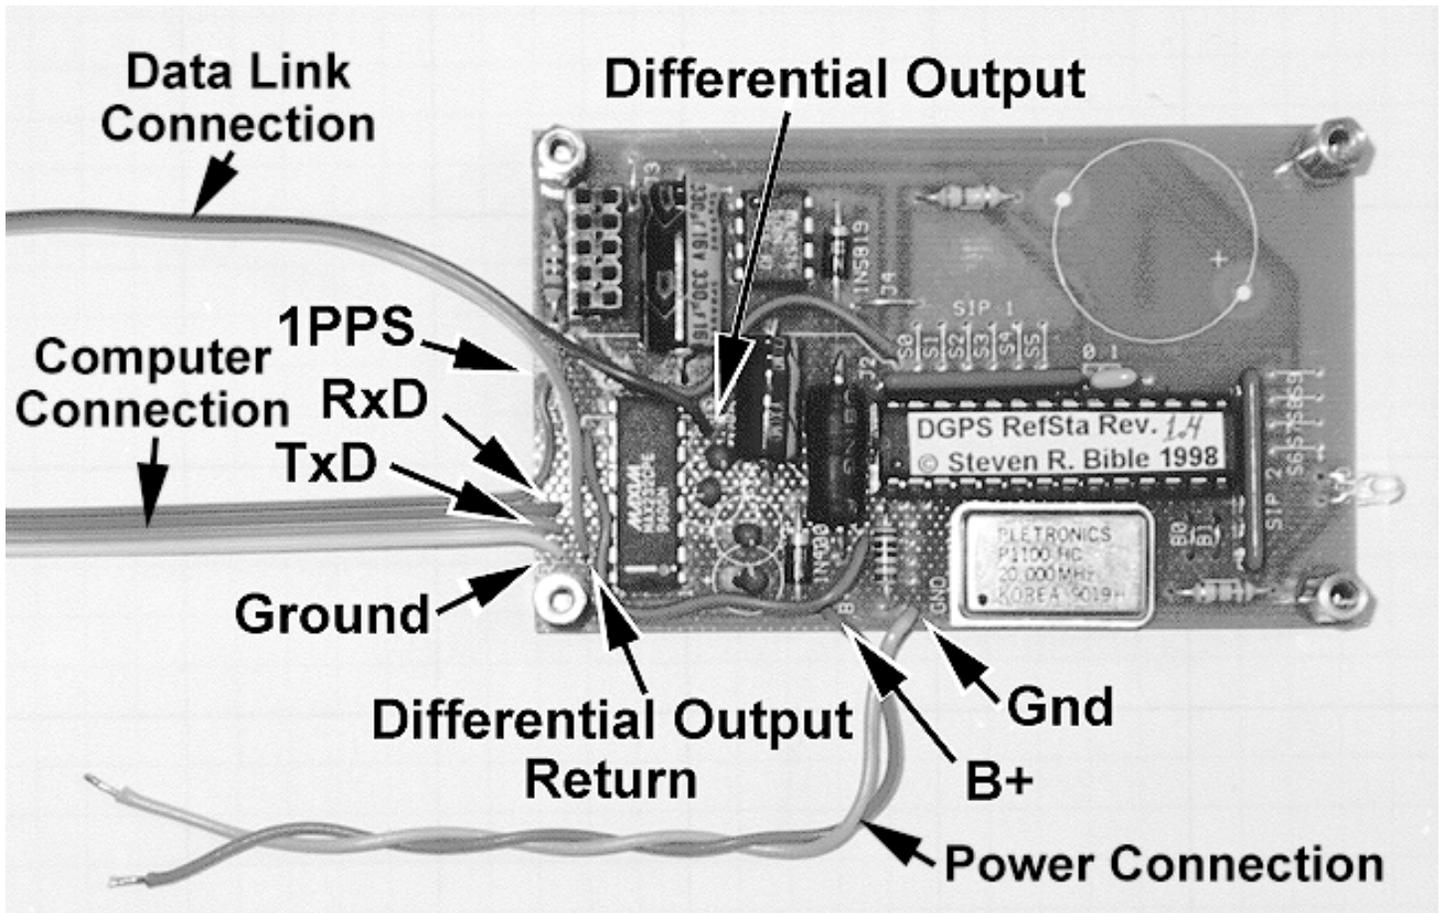

Figure 1. Location of Power and Data Connections
Power Connection (Refer to Figure 1)
- [] Solder the Red wire to the B+ hole in the DGPSIB. Refer to Figure 1.
- [] Solder the Black (or Gray) wire in the GND hole. Refer to Figure 1. Be careful not to cause a solder bridge to the nearby resistor.
Data Connections (Refer to Figure 1)
- [] Insert one end of the cable into the Data Link Connection holes labeled **Diff** and **G** (labeled as **Differential Output** and **Differential Output Return** in Figure 1).